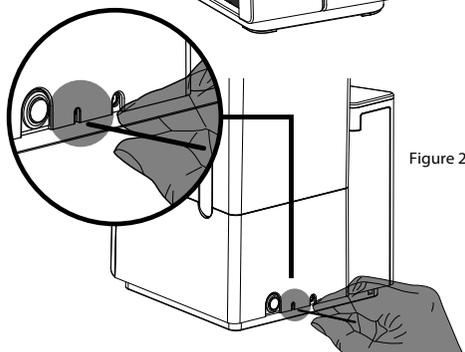

Figure 2
6. Press the Filter Reset Button located on the back of the AquaTru unit (Figure 2). Press and hold it for 3 to 5 seconds, or until the filter light turns off.